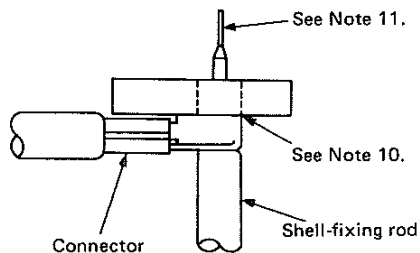

Fig. 7
- (1) Insert the mating section of the connector into the hole of the crimp connection jig, as shown in Figure 7, and press the shell-fixing rod firmly against the shell.